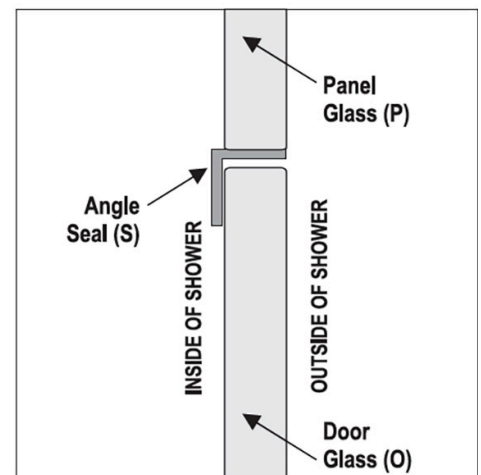

FIGURE 29C
ZV Angle Seal (M) - This is to be placed on handle side of door, DIRECTLY to the Panel Glass (P) (make sure glass is clean and dry before application). (See Figure 29C)
CAUTION: By using this angle seal, your door will no longer be able to swing both in and out. (See Figure 29C)